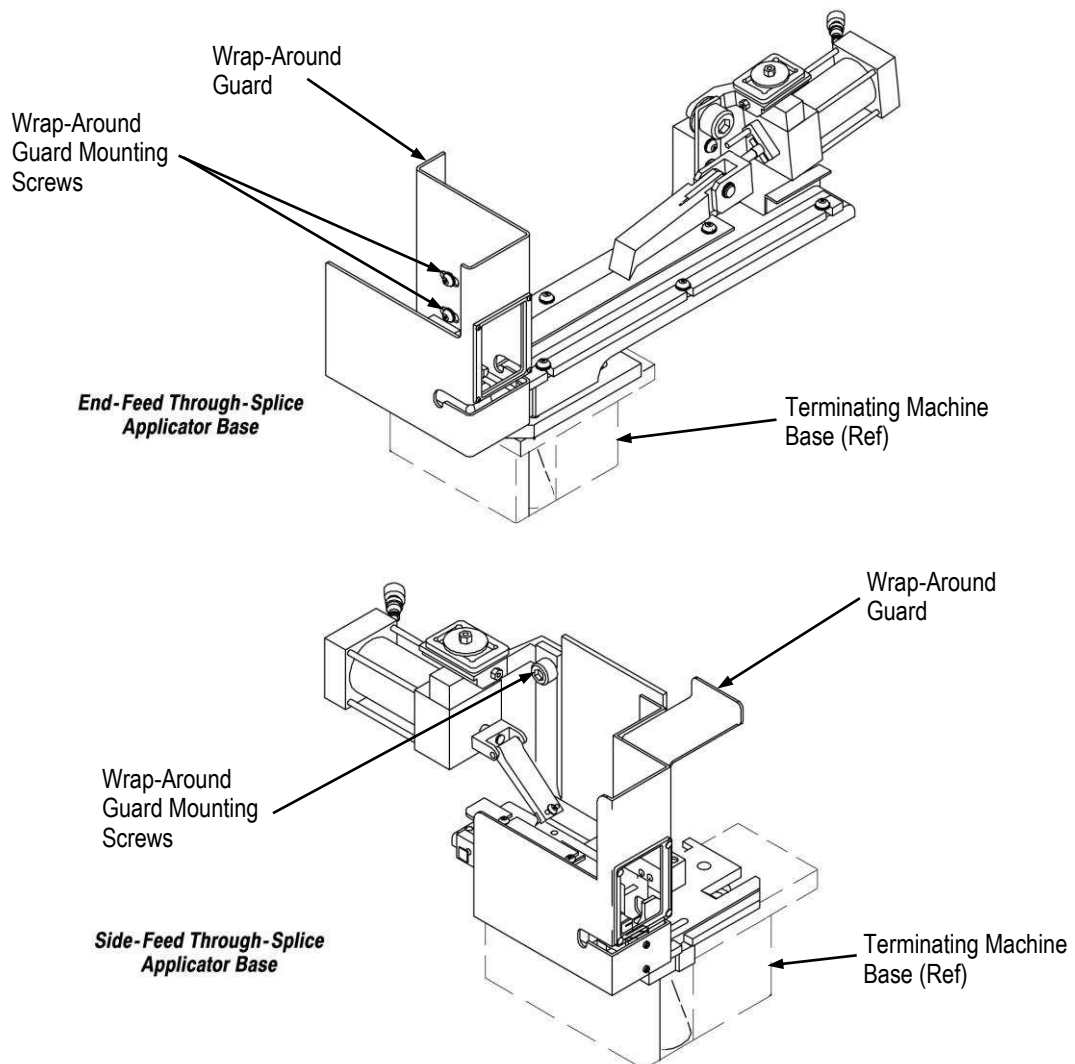

Figure 6
2. Remove the wrap-around guard by removing the two mounting screws (refer to Figure 6).
3. Remove the wrap around guard (see Figure 6).